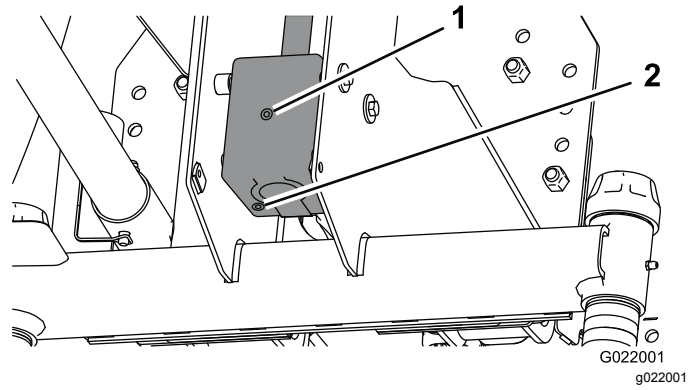

Figure 24
4. Remove the check/fill plug from the side of the gear box (Figure 24).